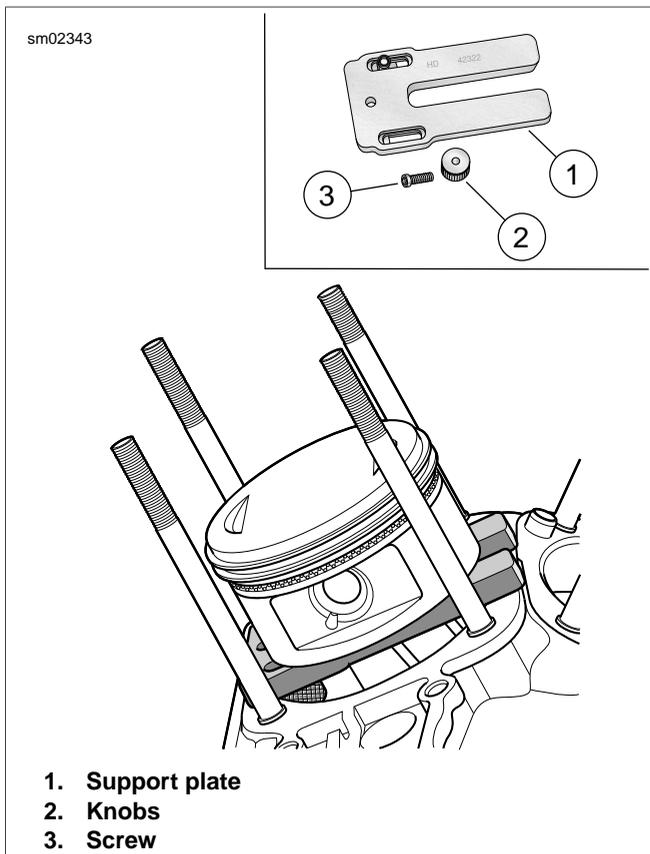
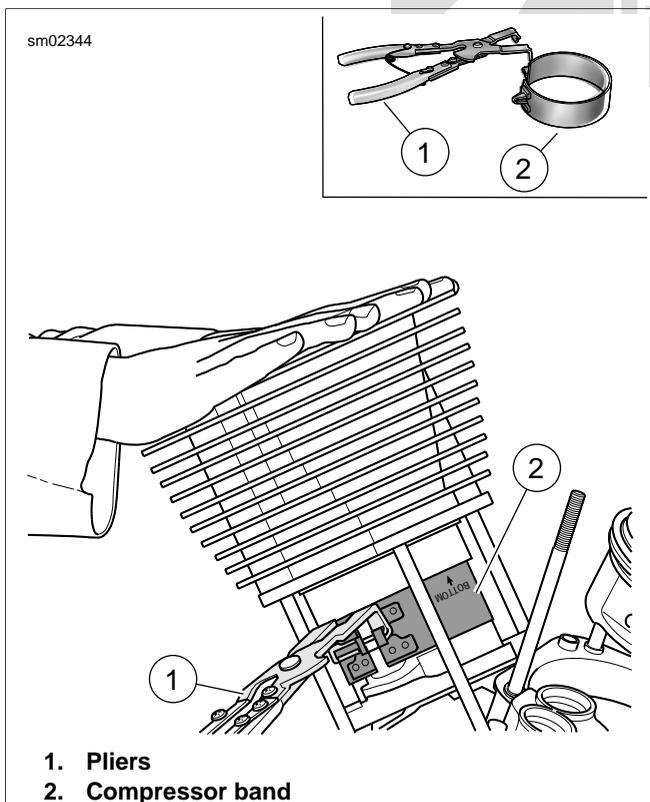

Figure 3-31. Piston Support Plate
Figure 3-32. Piston Ring Compressor
6. See Figure 3-31. Install the PISTON SUPPORT PLATE (Part No. HD-42322).
- a. Slide both adjustable knobs (2) on support plate (1) down away from forked end. Tighten knobs when contact is made with flats at end of slots.
7. See Figure 3-32. Install cylinder using PISTON RING COMPRESSOR (Part No. HD-96333-51E).
- a. Fit tabs on pliers (1) into slots of ring compressor band (2). The arrow stamped on the band indicates the side that faces up, so disregard the word "bottom". Place band around piston. Press the lever on the right side of the pliers to open the jaws for band expansion.